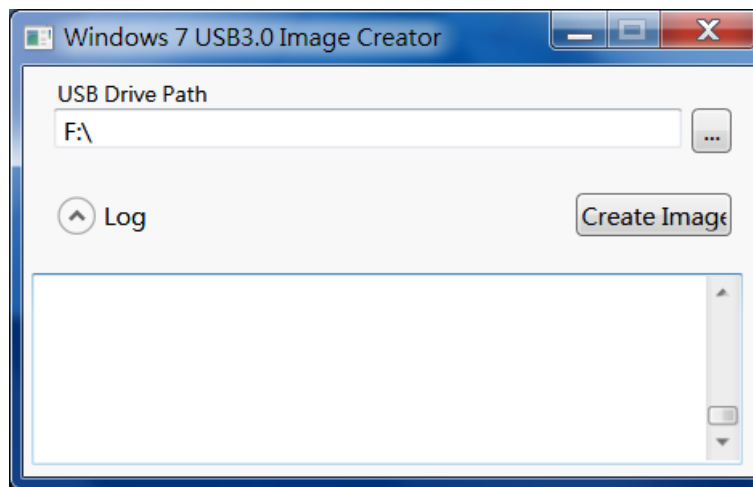

Figure 4-17: Windows 7 USB 3.0 Creator Utility
Step 6: The Windows 7 USB 3.0 Creator Utility screen appears (**Figure 4-17**). Click  to browse to the root of the USB drive containing the Windows 7 image.